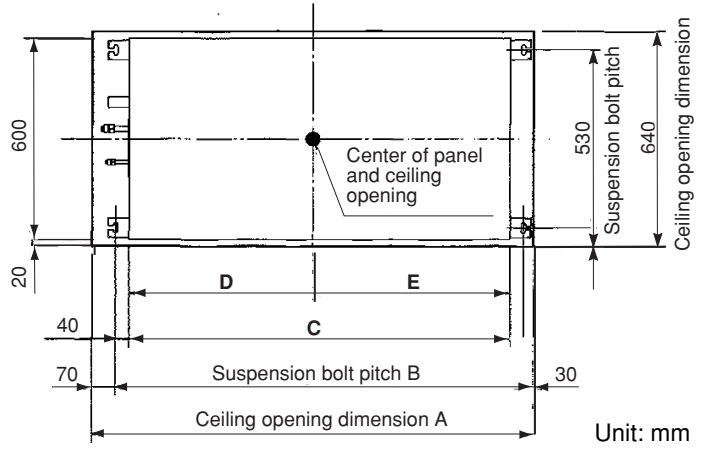

Fig. 3-18
(3) Cut the ceiling material, if necessary. (Refer to Figs. 3-18 and 3-19, and Table 3-2.)